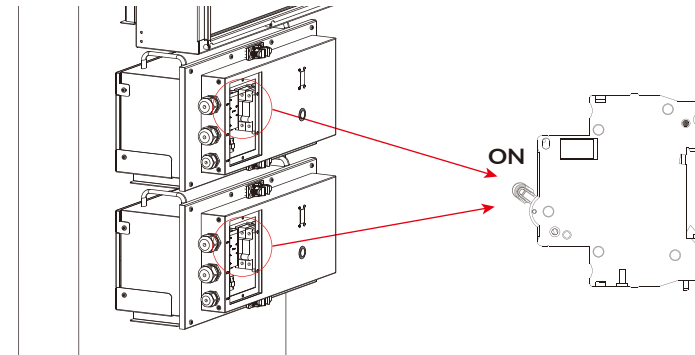

Figure 2.40 Turn on the Circuit Breaker
Step 23 Turn on the circuit breaker. The status of the figure 2.40 above is connected viewed from the front.